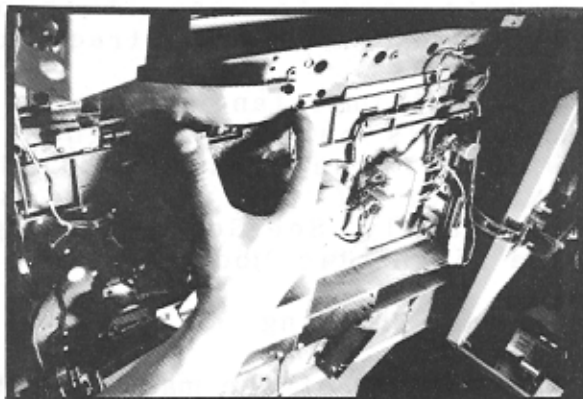

Fig. 37
2. Lift the spring loaded latches from the top of the coin acceptor and pull the top of the acceptor away from its housing while holding the latches above the acceptor studs (see Fig. 37).
1. Remove the coin acceptor from its mounting in the front door (see Fig. 37, pg. 26).